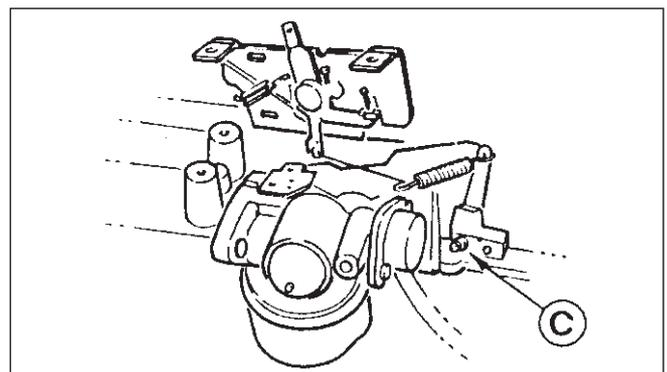

Fig. 21
**NOTE** - The screw (C) for the governor lever is a left hand thread screw. (Fig 21).